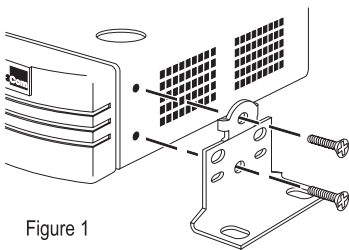

Figure 1
- 2 Locate a mounting bracket over the mounting holes on one side of the unit, as shown in figure 1 below.